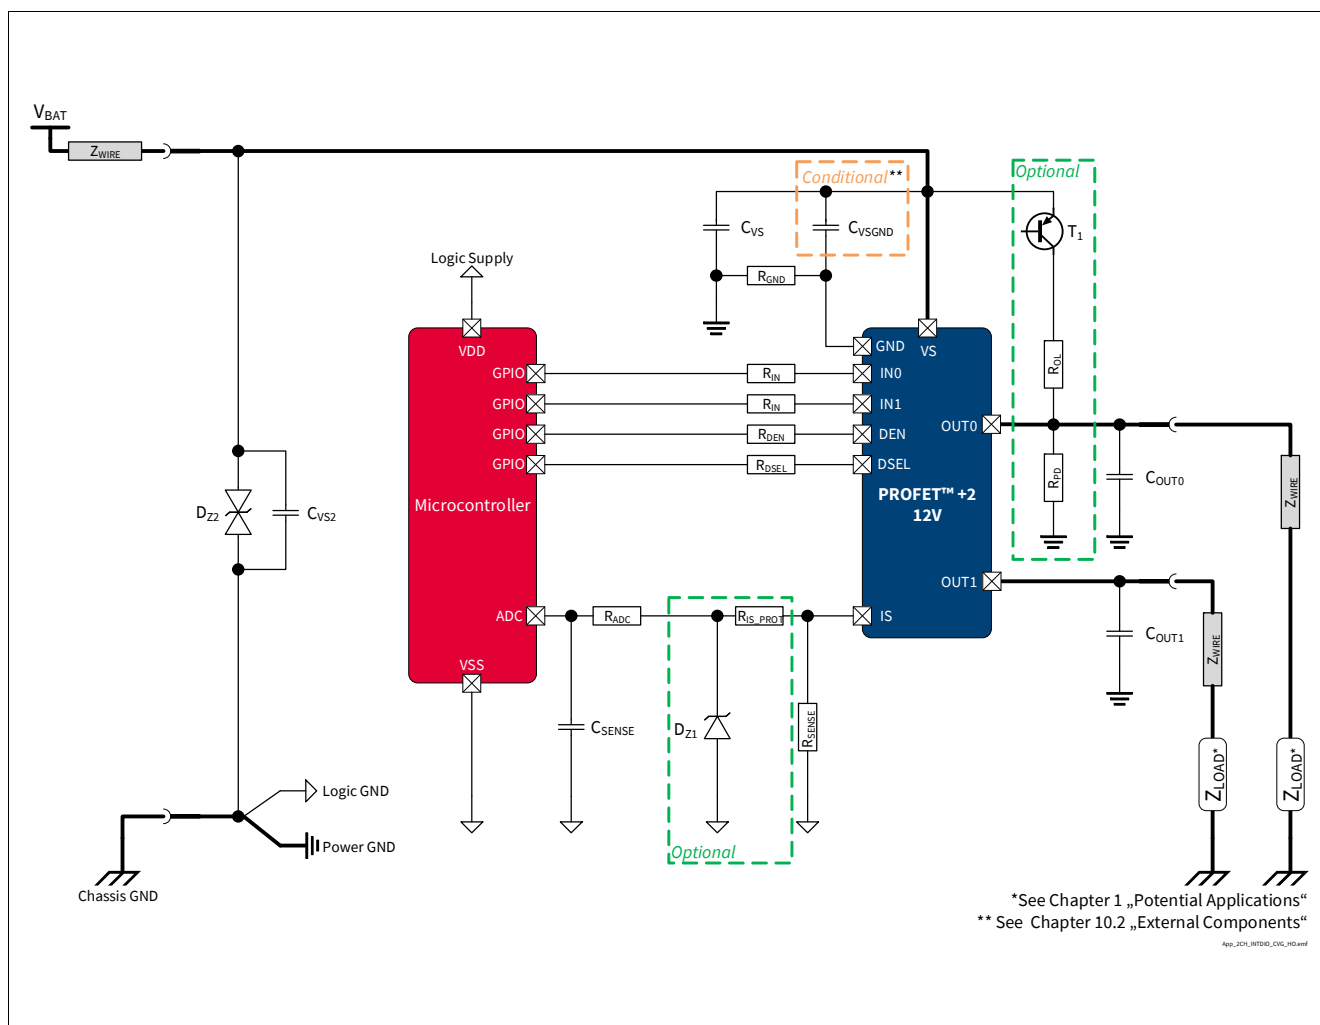

Figure 42 BTS7200-2EPA Application Diagram
1.03 , 2019-10-15	P_8.7.9.1, P_8.7.9.7, P_8.7.9.8 updated (added in Note or Test Condition: link to Figure 25) P_7.5.9.4, P_7.5.9.5 updated (added in Note or Test Condition: DEN = “low”; link to Figure 19) P_7.5.9.12 updated (added in Note or Test Condition: See Figure 21 ; deleted unnecessary space in Symbol: $ dV_{OUT} / dt \rightarrow dV_{OUT} / dt $) P_8.7.9.6 updated (added in Note or Test Condition: see Figure 26) P_9.7.9.1 updated (added in Note or Test Condition: See Figure 33) P_9.7.9.5 updated (Min./Typ./Max.: -45%/670/+45% → -25.0%/665/+25.0%) P_9.7.9.6 updated (Min./Typ./Max.: -36%/670/+36% → -24.0%/665/+24.0%) P_9.7.9.8 updated (Min./Typ./Max.: -30%/670/+30% → -22.5%/665/+22.5%) P_9.7.9.12 updated (Min./Typ./Max.: -14%/670/+14% → -11.0%/665/+11.0%) P_9.7.9.13 updated (Min./Typ./Max.: -11%/670/+11% → -8.5%/665/+8.5%) P_9.7.9.15 updated (Min./Max.: -6%/+6% → -6.0%/+6.0%) P_9.7.9.17 updated (Min./Max.: -5%/+5% → -5.0%/+5.0%) P_7.5.9.11 updated (added in Note or Test Condition: See Figure 19) Figure 1 , Figure 42 updated Chapter 1 updated (or LED equivalent → or equivalent electronic loads (e.g. LED modules)) P_4.3.0.7 added Table 24 updated Chapter 5.1 updated (added: see Chapter 10 for the complete application setup overview)